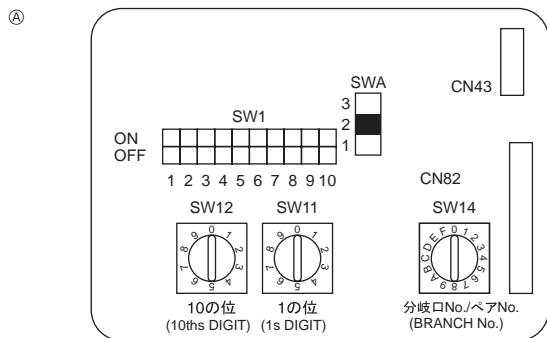

Fig. 6-4
6.5. Setting addresses (Fig. 6-4)